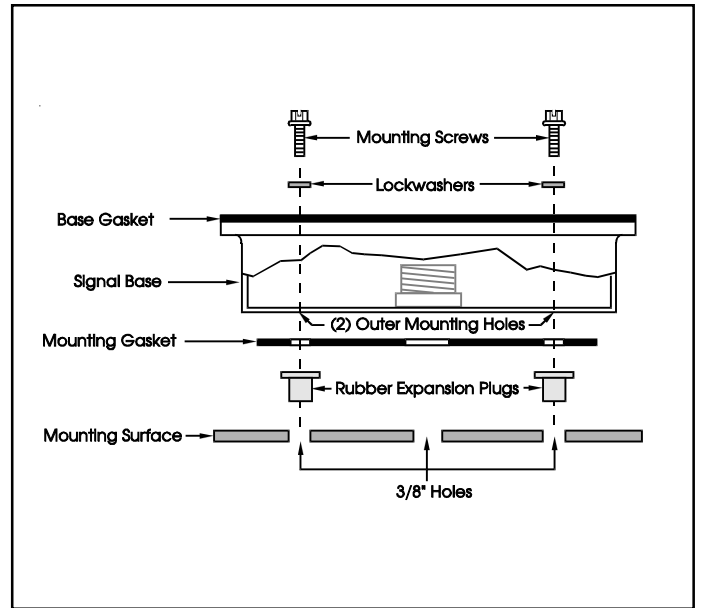

Figure 2. Direct Surface Mounting of Signal
- c. Install the two rubber expansion plugs provided in the hardware kit into the two outer holes in the mounting surface as indicated in Figure 2.
- e. Align the holes in the gasket with the holes in the base. Insert the two screws with lockwashers provided in the hardware kit through the mounting holes inside the base and align the screws with the rubber expansion plugs as shown in Figure 2. Press the base firmly against the mounting surface and tighten the screws.